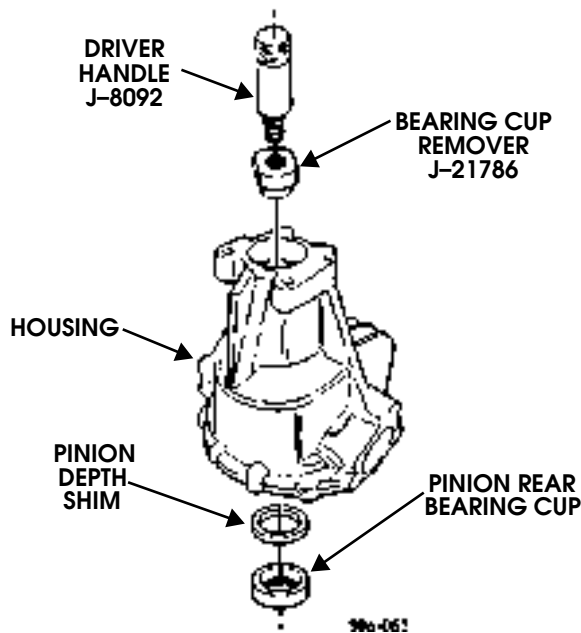

Figure 9-67: Pinion Rear Bearing Cup Removal
19. Rotate front of housing upward 90 degrees. Using driver handle J-8092 and bearing cup remover J-21786, remove pinion rear bearing cup and pinion depth shim from housing (Figure 9-67).